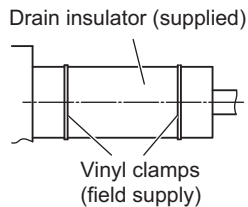

Fig. 1-116
- (2) After connecting the drain pipe securely, wrap the supplied packing and drain pipe insulator around the pipe, then secure it with the vinyl clamps. (Fig. 1-116)